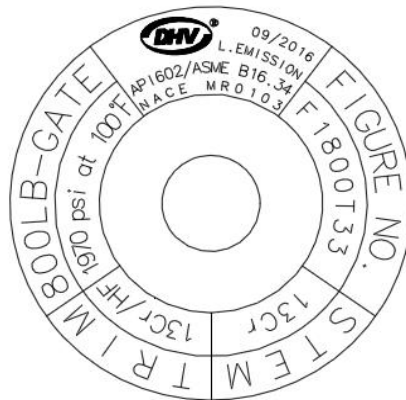

Figure 1 Typical Valve Nameplate
- Valve information can be found on the valve body, and the name plate. Fig 1 is a typical nameplate.